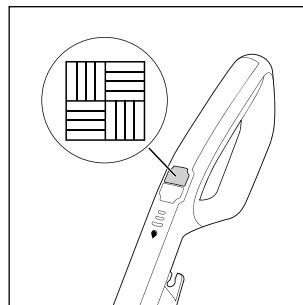

Fig. 13
- ◆ Press the hard floor switch  ⑯ to switch the appliance on (see fig. 13). The LED on the hard floor switch  ⑯ lights up blue.
- ◆ Press the hard floor switch  ⑯ again to switch the appliance off (see fig. 13).